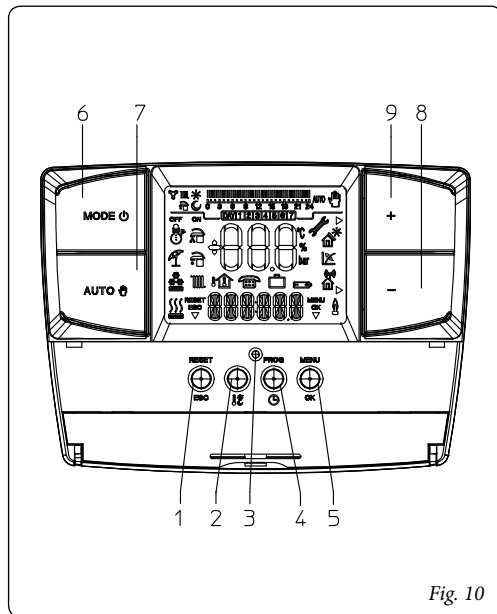

Fig. 10
RESET ESC 	Description of functioning of the button (1 fig. 10) - Reset, or esc
Indicates that it is possible to modify a parameter via the two buttons (8 and 9 fig. 10)
MENU OK 	Description of functioning of the button (5 fig. 10) - Menu or Ok
By pressing the main selector button (ref. 6 fig. 10) the following functions can be selected: